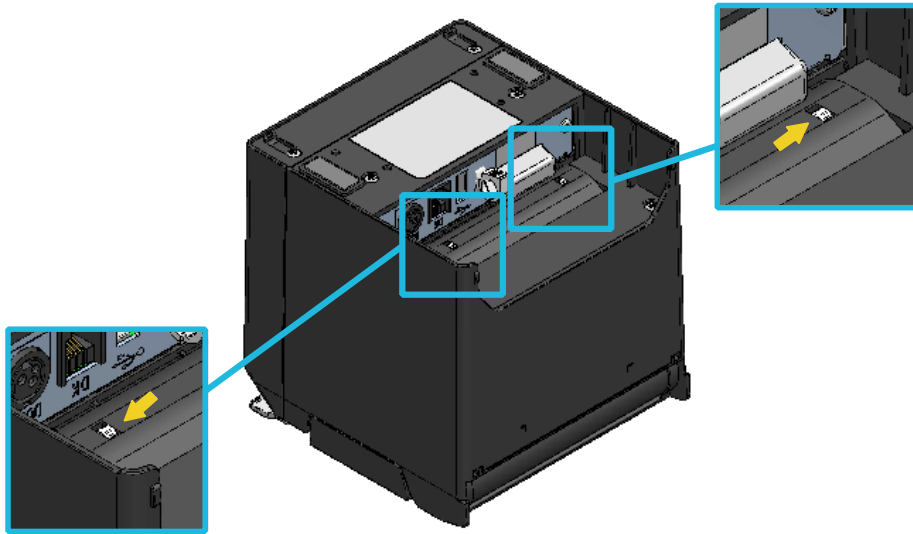

Figure 14-4 Partition Plate Installation Check
- (6) Turn the printer over, and make sure that the projection of the partition plate L and partition plate R are fit properly into the hole of the paper holder (the arrow shown in Figure 14-4).